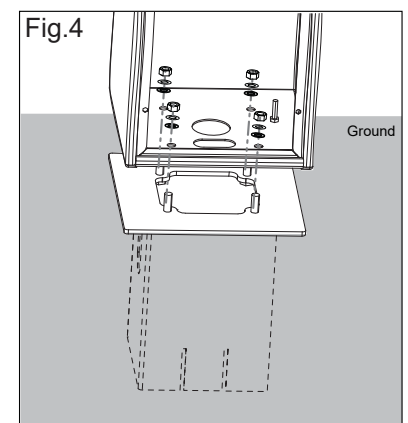

Fig.4
4.See the right figure for fixing(Fig.4)